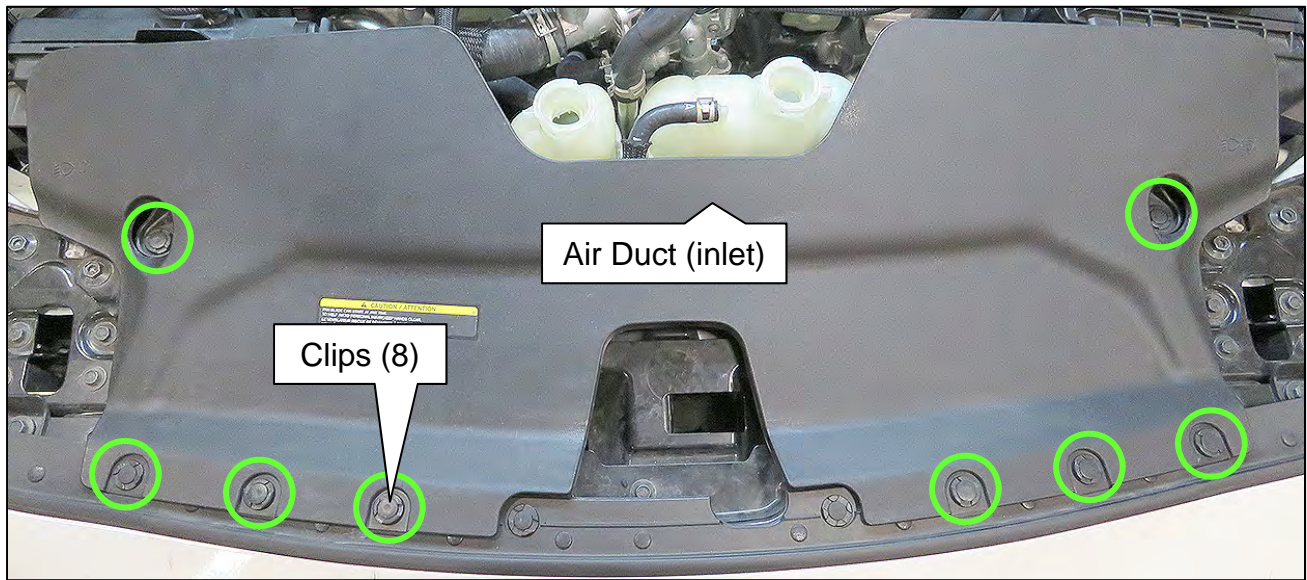

Figure 17
28. Remove the Air Duct (inlet), shown in Figure 17.
- Eight (8) clips.